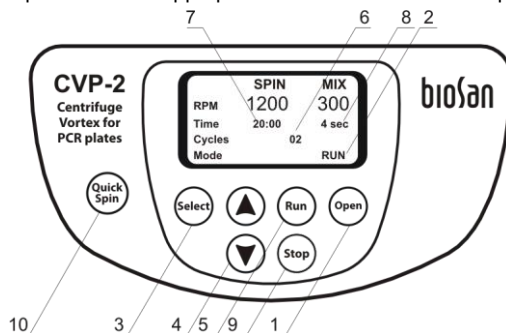

**Fig. 1. Rotor replacement**
- unscrew the fixation nut (Fig. 1/1) counterclockwise using the wrench included in standard set and remove the nut.
- place the rotor and secure it tightly with the fixation nut, placing the nut with the key holes up (Fig.1/1) and turning it clockwise by the included wrench.
- place the safety cover (Fig. 1/2) on the rotor by pressing the cover clip (Fig. 1/3) down;